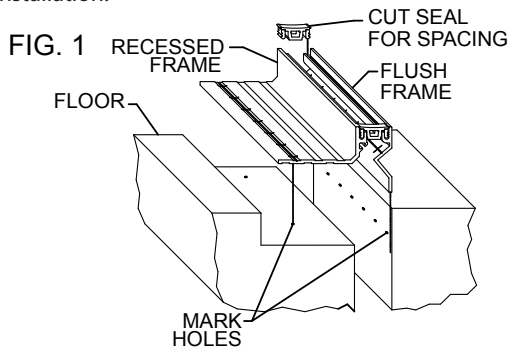

FIG. 1a (120-A02 FLOOR TO WALL SYSTEM)
1. Install the architectural joint system on a level surface within the blockout. To determine blockout depth, deduct thickness of floor finish from frame height. Make sure top of frame is level with the finished floor height. This may require adding leveling compound to raise the tops of the frames. For floor to wall systems, align the recessed frame with the flush frame. See Fig. 1a.